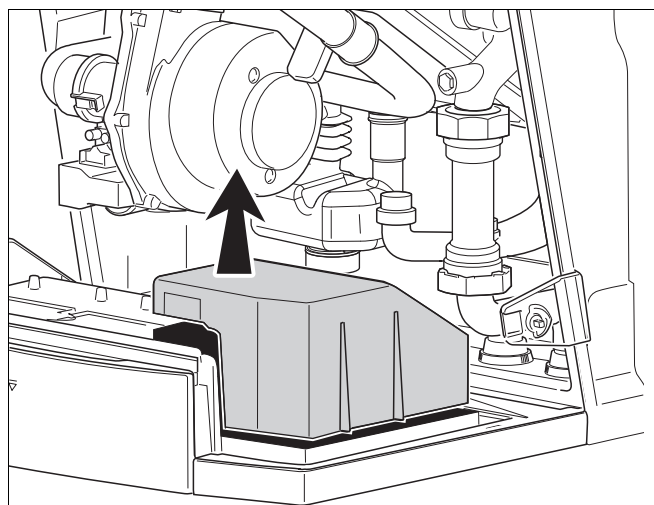

fig. 52 Removing the cover from the connection box
- Remove the cover from the connection box (see fig. 52).